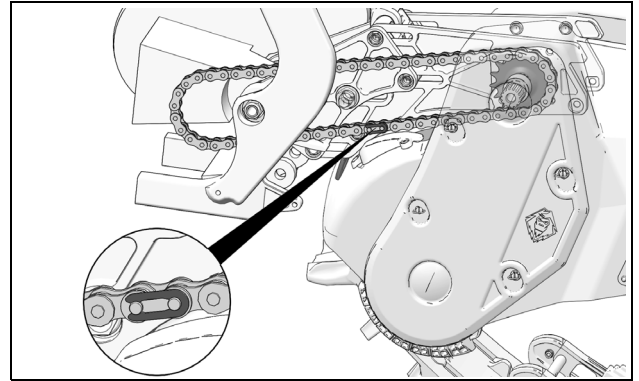

Figure 35
- Install the provided chain on the engine sprocket and join the ends using the master link. See Figure 35.